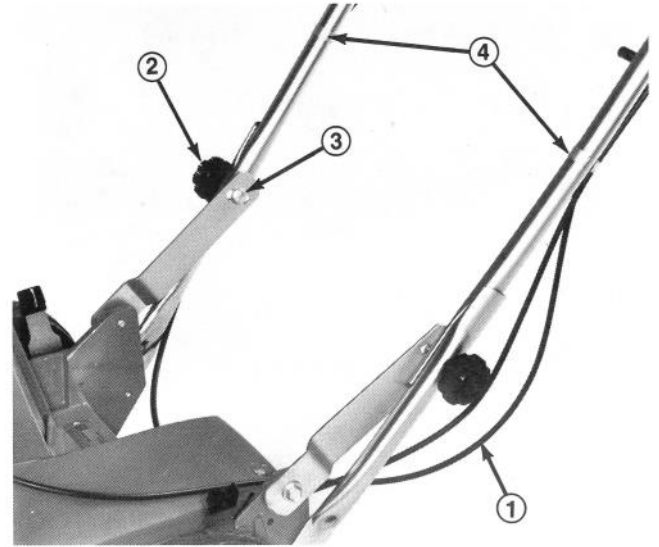

Figure 2
2. Loosen and remove each knob and curved head handle bolt, one side at a time. Be sure control cables are to rear and inside of handles (Fig. 2).
Align handle latch hole with holes in upper and lower handle and install handle bolt and knob with knobs on the outside of handle (Fig. 2).